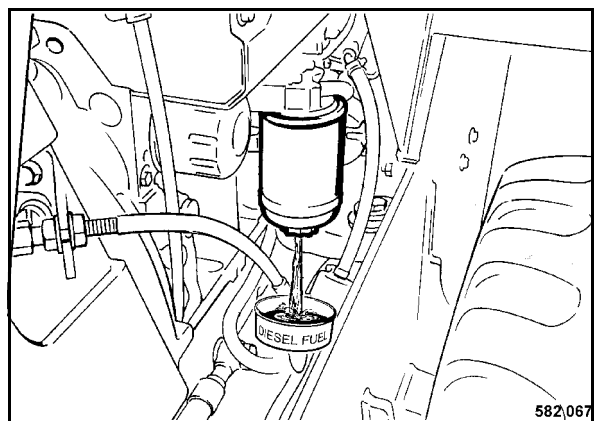

Fig. 58
- Slacken the drain plug (Fig. 58) for a few turns and catch running out fuel / water.